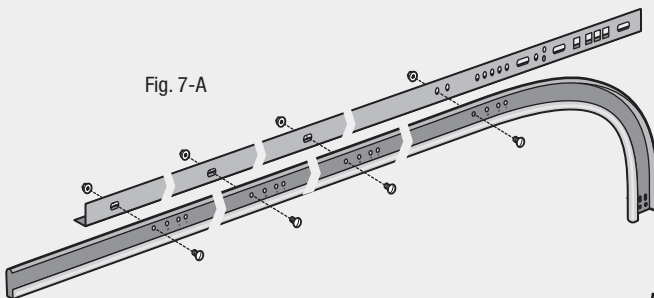

Fig. 7-A
- Fasten horizontal angle to horizontal (curved) track using (4) 1/4"-20 × 9/16" track bolts and 1/4" flange nuts with head of bolt facing the inside of each track (Fig. 7-A). Repeat this and following steps for both sides of door.
- Temporarily support rear end of track with a rope attached to overhead trusses or rest the track on a tall ladder (Fig. 7-B).